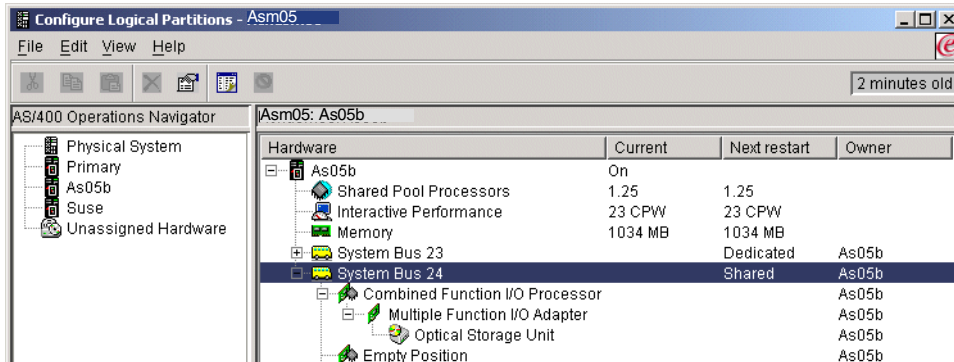

Figure 8-47 Available resources
10. Click the plus sign [+] to expand the system bus containing the IOP to be moved. In this example, we selected system bus 24 (see Figure 8-47).